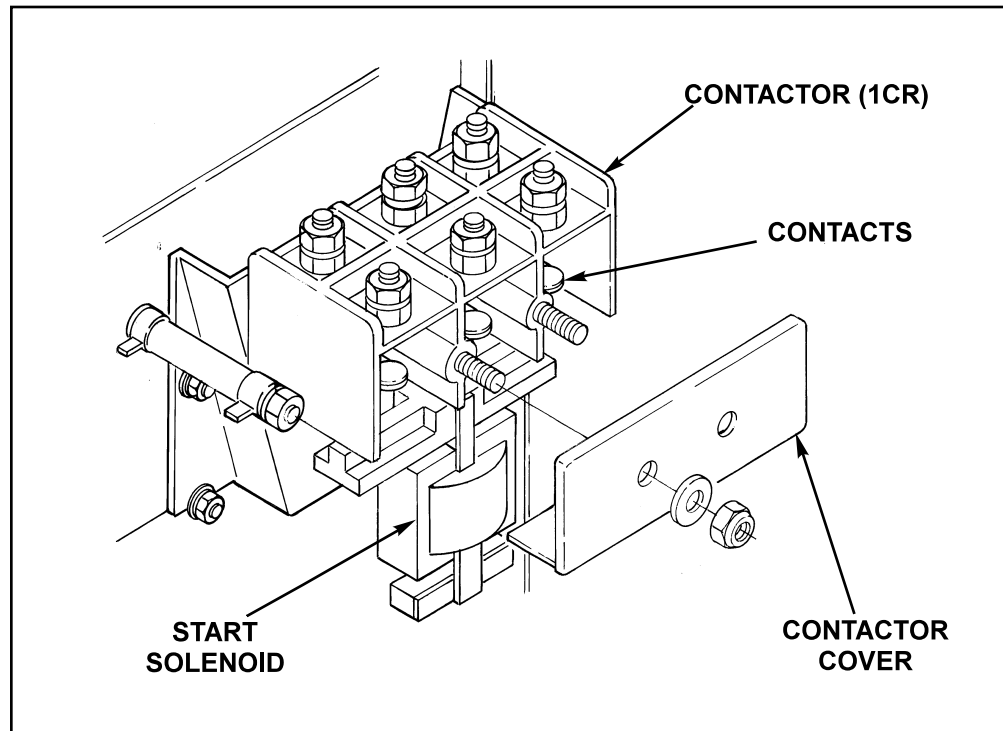

FIGURE F.18 - Input Contactor Cover Removal
2. Locate the input contactor. Using a  $1/2\text{O}$  wrench, remove the cover plate from the input contactor. Mark, label, and remove leads as necessary to access the two nuts and washers on the studs. See Figures F.18 and F.19.